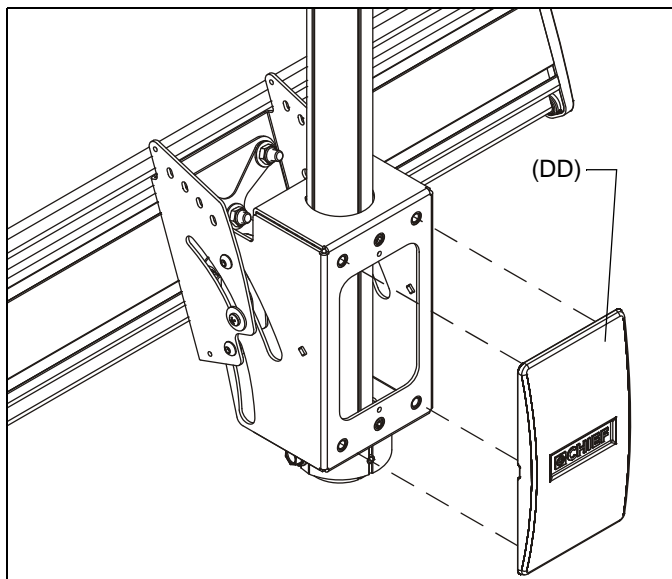

Figure 14
2. Install back cover (DD) into four holes on back of ceiling mount. (See Figure 14)